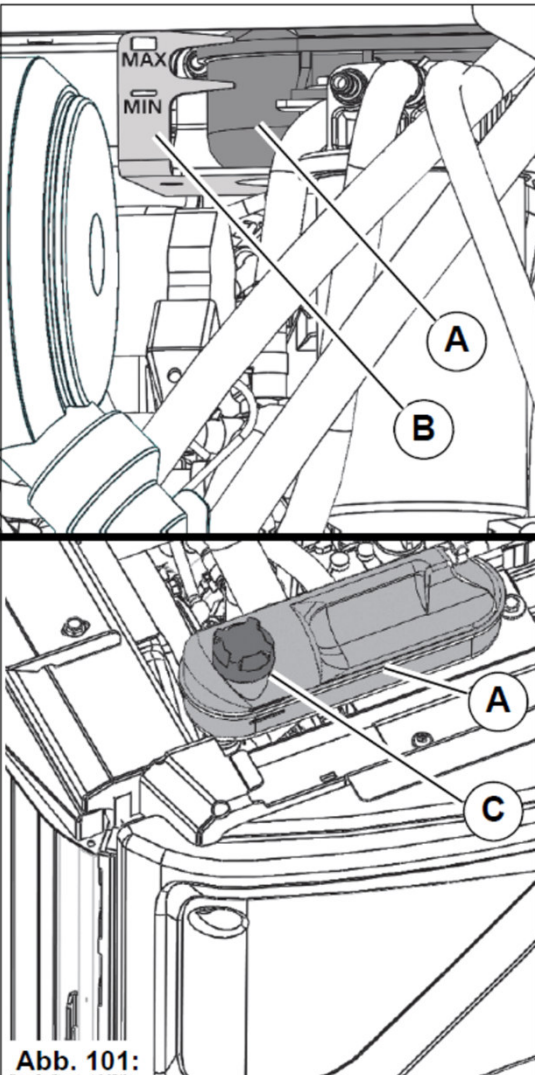

Abb. 101:
3. Check the coolant level. The coolant level of the expansion tank Fig. 101-A must be between the upper and lower mark Fig. 101-B when the engine has cooled down.
4. Unscrew the cap Fig. 101-C carefully step by step from the expansion tank.